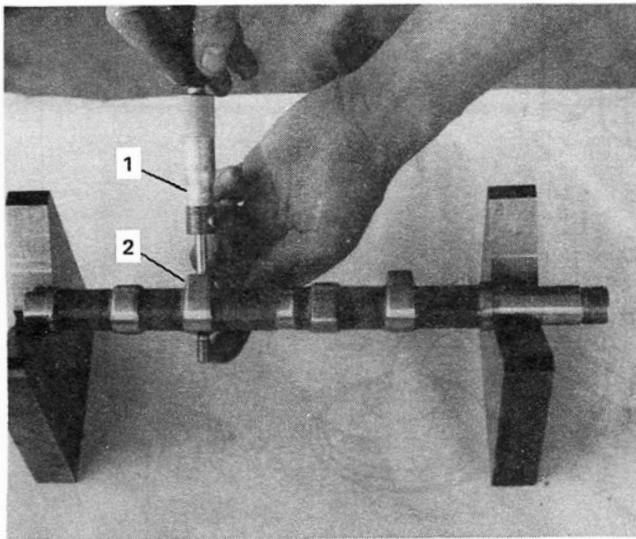

Figure 29
3. Measure the height of the camshaft lobes with a micrometer, see Figure 29. If the height of the camshaft lobes does not meet the specified limit page 28, replace the camshaft.